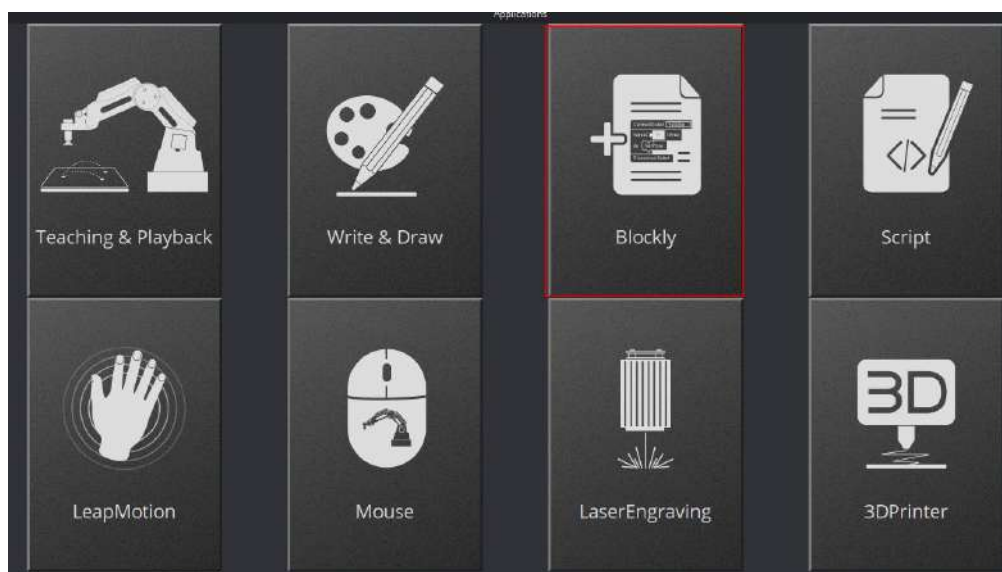
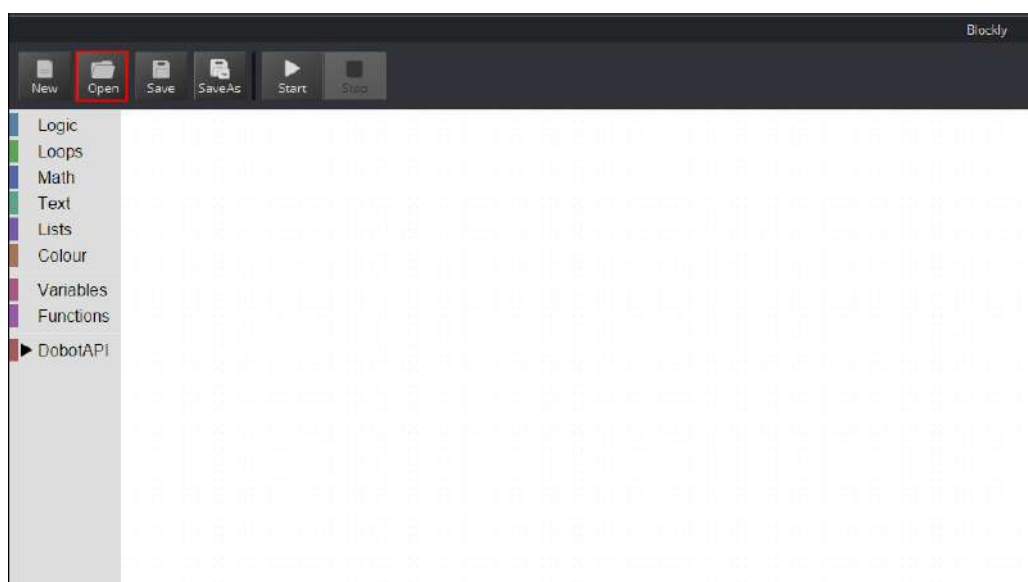

Figure 3.4 Open Blockly module
Figure 3.5 Import demo
Step 2. Launch two DobotStudio clients, and open **Blockly** module and import the picking demo and the sorting demo respectively. As shown in Figure 3.4 and Figure 3.5.